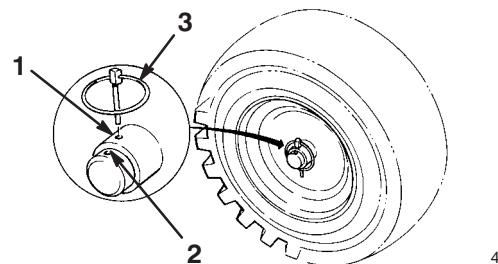

Figure 4
7. Slide the wheels inward and insert each axle pin through the hole in each wheel hub and through the *inner* hole of the axle (Fig. 4).